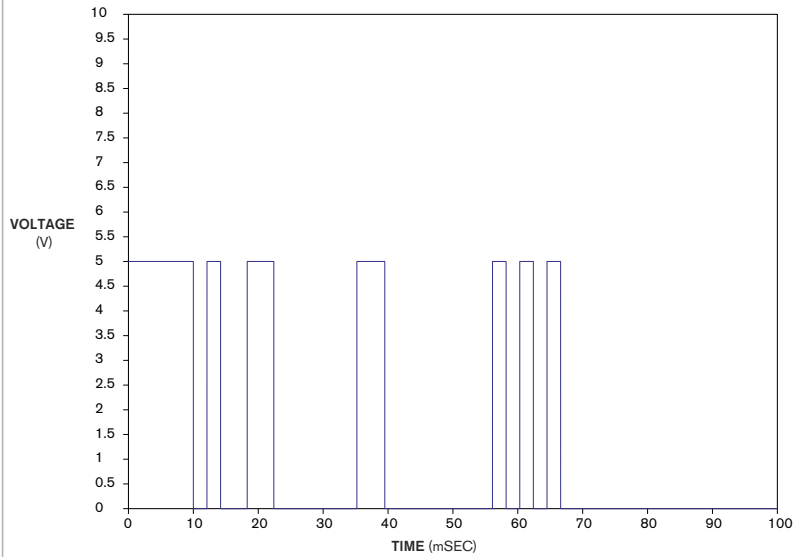

Figure 2 Switch contacts first close at 10 msec and then bounce erratically for more than 50 msec before reaching a stable closed condition.
55.333 msec. The software effectively filters out the three input pulses starting at 56.1 msec (**figures 2 and 3**). **EDN**